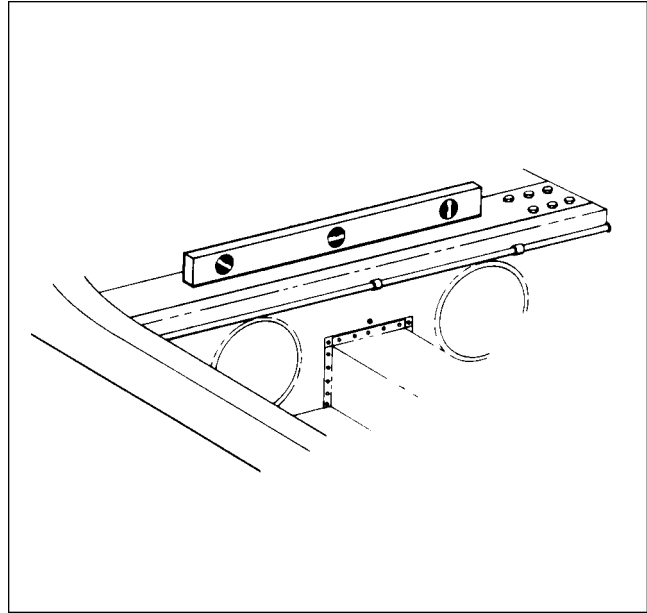

Figure 2-9. Leveling Laterally
- b. To laterally level the airplane, place a level across the spar box assembly located under the rear seat. (Refer to Figure 2-9.) Raise or lower one wing tip by deflating the appropriate tire on the high side of the airplane or adjust either jack until the bubble of the level is centered.